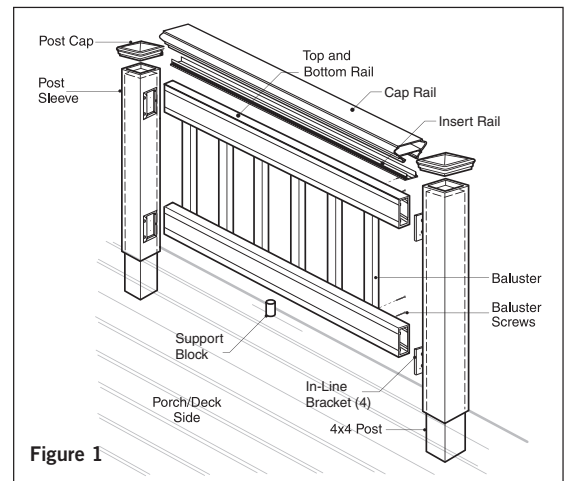

Figure 1
Step 6 Measure the distance between installed post sleeves to determine the length of the top and bottom rails (**Figure 1**). The distance between the post and first baluster should be less than 4" and equal on both ends (**Figure 4a and 4b**). Remove an additional 1/4" on both ends (1/2" overall) for the bracket to fit between the rail and post. Trim the top and bottom rails to length.
Step 9 A support block is needed at the center of each rail. Cut the support block to the proper height. Attach to the bottom of the lower rail (**refer to Figure 1**). Find the center of the rail and pre-drill using a 1/8" drill bit. Attach the support block connector using the included screw. Mark the location of the support block on the deck surface and attach the other support block connector to the deck using the included screw. Install the bottom rail between the posts. Using the brackets as a guide, pre-drill each screw hole using a 1/8" drill bit and attach each end to brackets using two 1" long screws. Tip: Use a driver extension bit to avoid marring the rail or post sleeve with the drill chuck.
Step 7 A support block is needed at the center of each rail. Cut the support block to desired height. Attach to the bottom of the lower rail (refer to **Figure 1**). Find the center of the rail and pre-drill using a 1/8" drill bit. Attach the support block connector using the included screw. Mark the location of the support block on the step tread and attach the other support block connector to the step tread using the included screw.